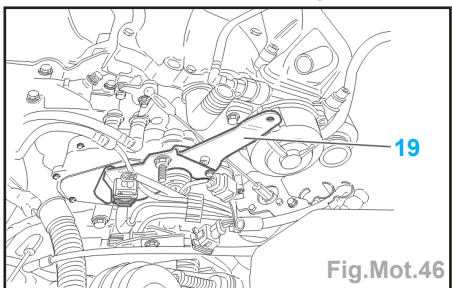

Fig.Mot.46
- Déposer le support (19) (Fig.Mot.46).